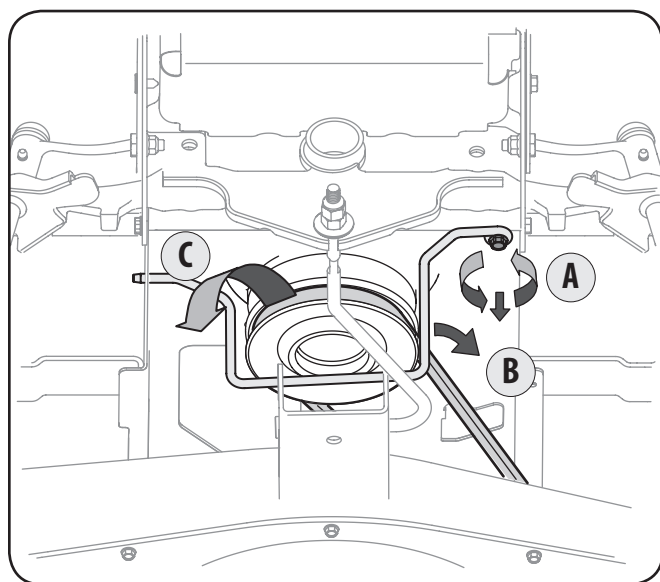

Figure 7-2
4. Remove the belt-keeper rod, from around the tractor's engine pulley, by removing the self-tapping screw (A) that secures it. See Fig. 7-2.
5. Remove the belt (C) from around the tractor's engine pulley and idler pulley(s). See Fig. 7-2.
2. Remove the belt-keeper rod, from around the tractor's engine pulley, by removing the self-tapping screw (A) that secures it. See Fig. 7-2.
3. Remove the belt (C) from around the tractor's engine pulley and idler pulley(s). See Fig. 7-2.